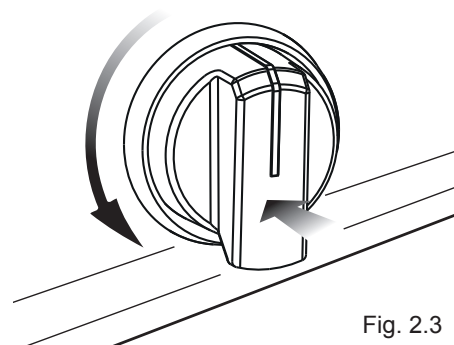

Fig. 2.3
2) Press the oven/broil control knob right down and turn counter-clockwise (fig. 2.3) to max position **550**.